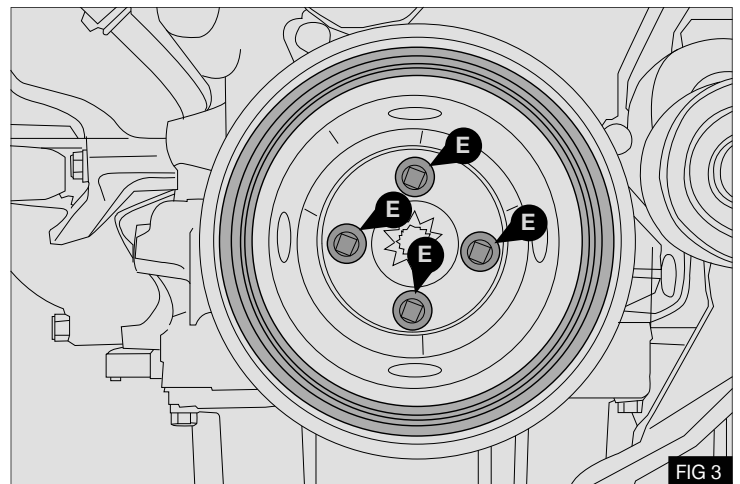

FIG 3
1. Remove and discard the 4x original crank pulley securing bolts (E) - Fig 3